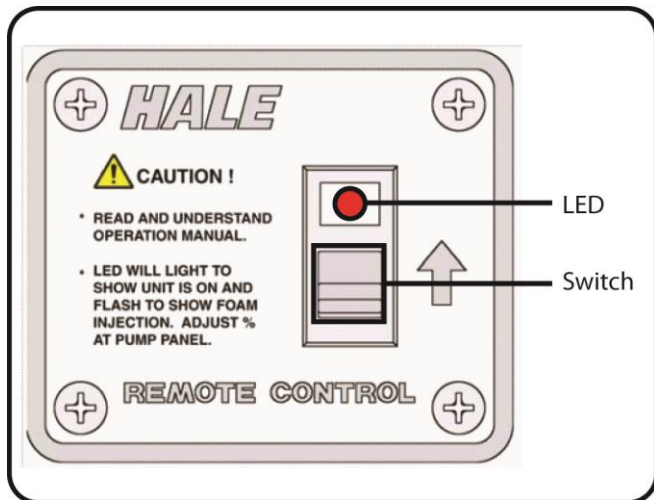

Figure 59: **Remote Activation Switch**
1. Press the switch down and release to activate. The LED turns ON SOLID, indicating the Hale SmartFOAM is in the STANDBY mode (see Figure 59: **Remote Activation Switch**).